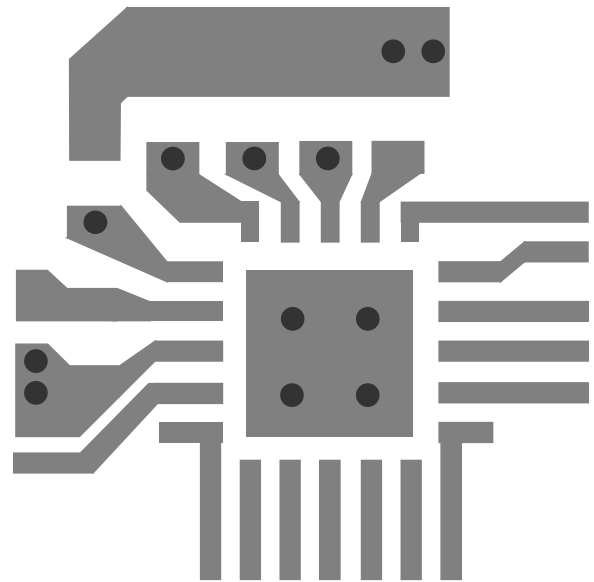
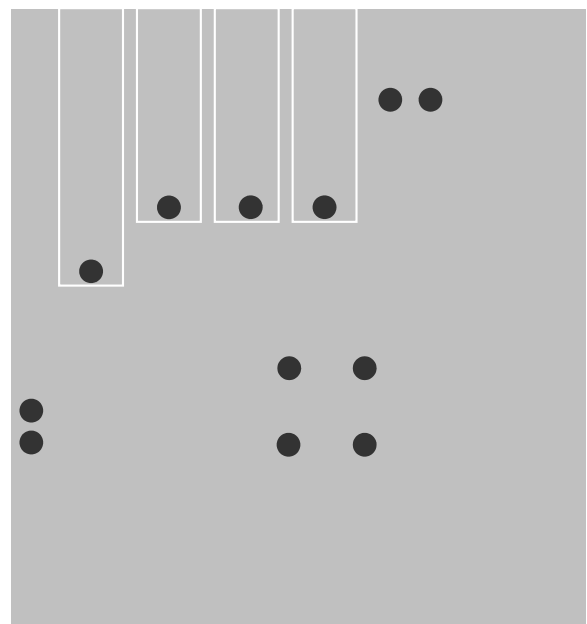

Figure 18 — Layer 1
Figure 19 — Layer 2
- Figure 18 shows the component copper layer. Make all ground connections to a solid ground plane as shown in Figure 19.